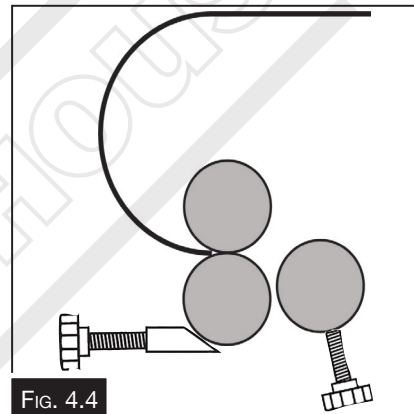

FIG. 4.4
5. Rotate the workpiece 180°, and insert the curved end into the rollers, then feed workpiece through again. (Fig. 4.4)